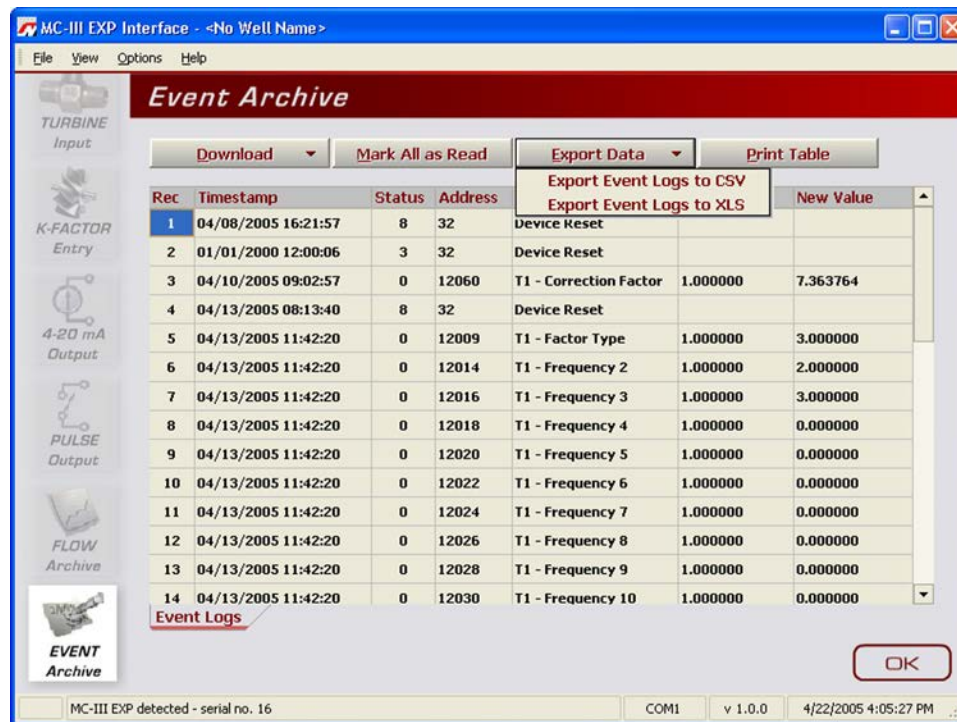

Figure 5.17—Dropdown menu for exporting log data
1. Click the “Export Data” button near the top of the Event Archive screen and select the .xls or .csv format (Figure 5.17, page 87).